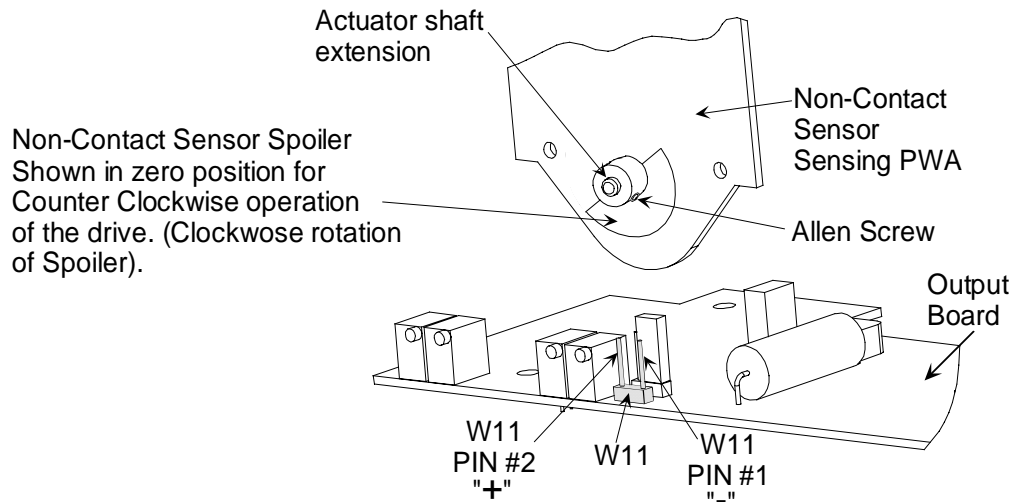

Figure 4-5 Location of NCS Sensor Assembly and Output Board
1. Loosen the allen screw in the hub of the NCS spoiler just enough to be able to rotate the spoiler. (See Figure 4-5.)
2. Drive the actuator to the zero position. This should be done manually with the hand wheel or with the auto/man electric switch. Next, rotate the NCS spoiler to its 0° position (it is shown in Figure 4-5 with the round of the spoiler and the allen screw at a 45-degree angle or 4:00 o'clock zero position for CCW operating units). For CW operating units, the actuator is positioned at its 100 % position and the NCS spoiler again at a 45-degree angle or 4:00 o'clock position. Tighten NCS spoiler set screw with allen wrench, holding spoilers in position. Spoilers need to be held in position both rotationally and longitudinally along the drive shaft extension (the gaps between each of the spoilers and the sensor circuit board should be approximately equal and any plastic or paper insulating material may be used to aid in this longitudinal positioning). Make sure that neither spoiler is touching the sensor electronics board when the adjustment is complete.
1. Locate the 4 mA to 20 mA output board that is positioned under the control shaft (see Figure 4-5).